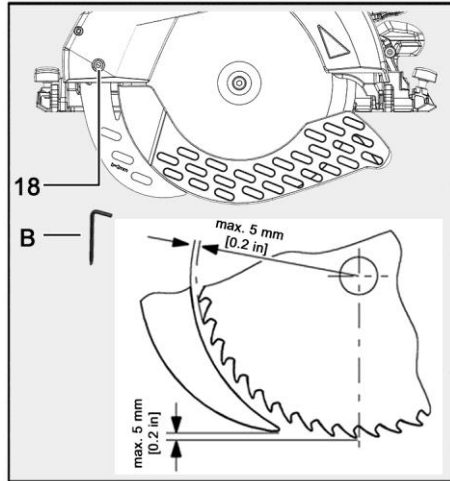

Fig. 12: Distance riving knife to saw blade
2. Using the Allen key (B) provided, turn the screw (18) **counterclockwise** to adjust it.
- Do not exceed the maximum distance to the saw blade (see Fig.. 12).
4. Using the Allen key (B), turn the flange screw (18) **clockwise** to tighten it.